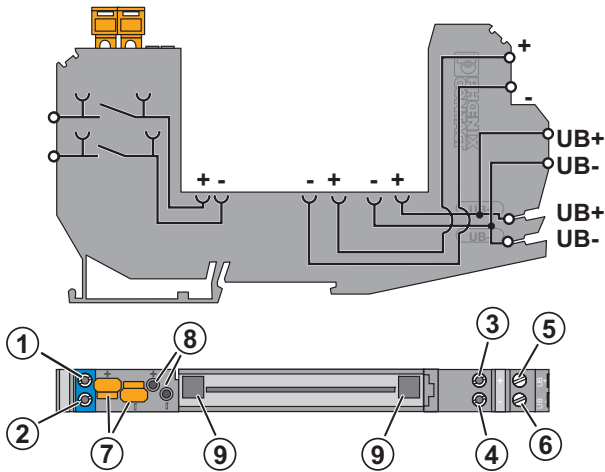

Figure 1 Structure
The basic terminal block is not keyed by default upon delivery. The user-friendly keying is located in the electronic module and consists of four plastic parts, which are joined together. When the electronic module is first removed, the lower part of the keying pins remains in the basic terminal block (⑨ in Figure 1 on page 5). In this way, it is automatically keyed to the relevant electronic module.
On the field side, the circuit can be interrupted by two isolating connectors (⑦ in Figure 1 on page 5).